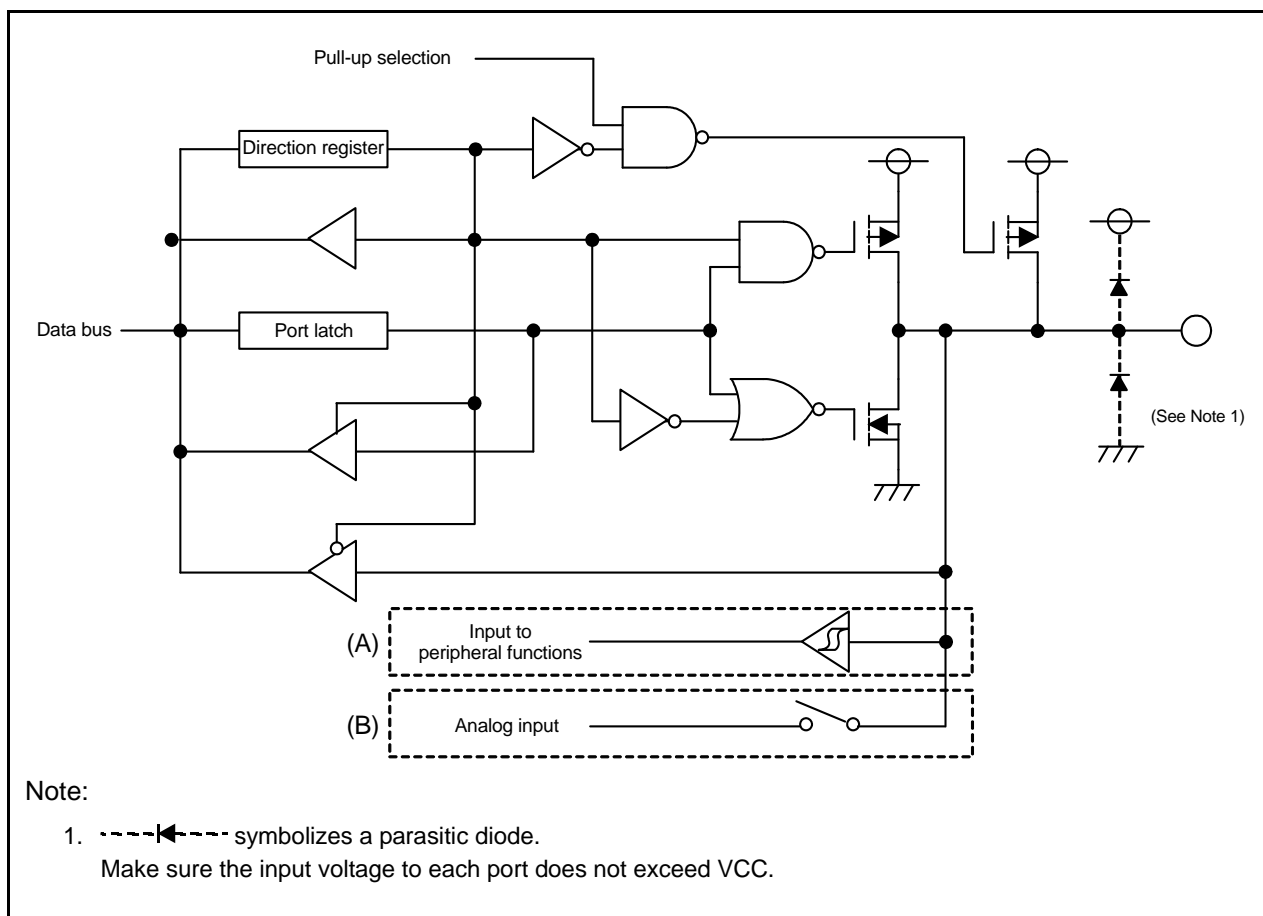

Figure 11.1 I/O Ports (Basic)
Figure 11.1 to Figure 11.6, and Table 11.3 and Table 11.8 show the programmable I/O ports, and Figure 11.7 shows the pins.
Peripheral function input (A) in Figure 11.1	Analog input (B) in Figure 11.1